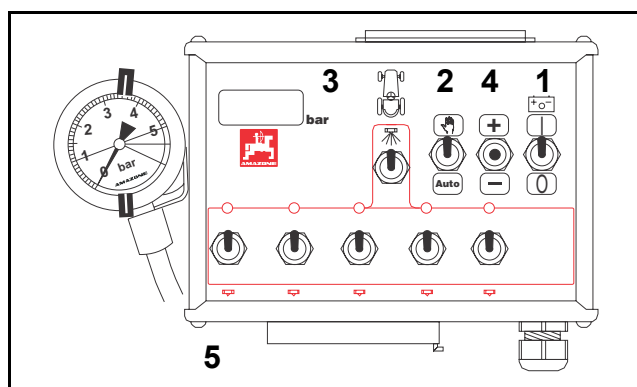
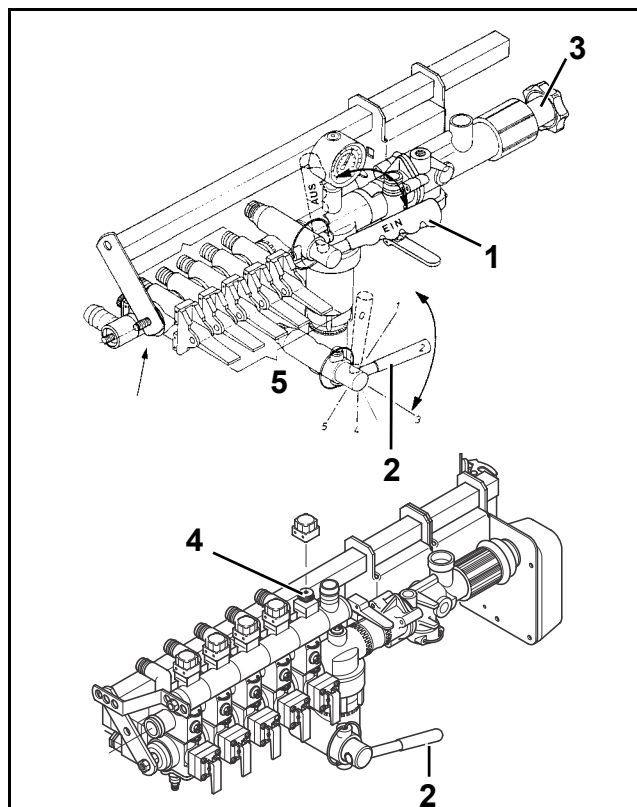

Fig. 33
Fig. 34
- Turn on the on/off switch (Fig. 33/1) for the electric power supply of the switch box into position "I". The red control lamp lights up and the switch box is ready for operation.
- Set the programme switch (Fig. 33/2) to the position "manual operation".
- Turn on the master boom control switch (central tap (Fig. 34/1) or switch (Fig. 33/3) into position "I" (EIN/ON). All part section valves open and water is sprayed out of the nozzles.
- On the step tap (Fig. 34/2) set agitation intensity "1".
- Turn the star knob (Fig. 34/4) or actuate the  $\pm$  key (Fig. 33/4) until the spray pressure display shows a spraying pressure of 4 bar.
- Set the equal pressure gauge with the aid of the knurled thumb screw (Fig. 34/4).
- Shut off one sprayer boom section via a metering tap (Fig. 34/5) or a part width switch (Fig. 33/5). The set spraying pressure will change on the spraying pressure display.
- Turn the thumb screw (Fig. 34/4) on the equal pressure valve belonging to this solenoid valve until the spray pressure of exactly 4 bar is displayed. Then re-open this sprayer boom section.